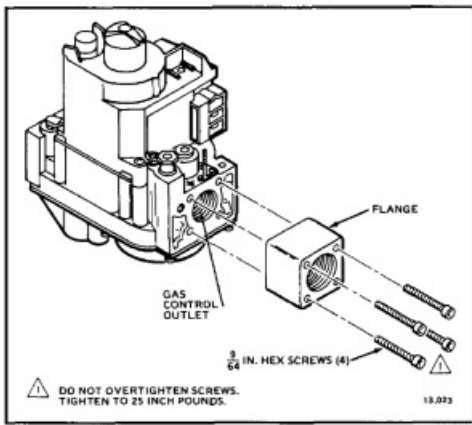

FIG. 2-INSTALL FLANGE TO GAS CONTROL
4. With O-ring facing gas control, align the screw holes on the gas control with the holes in the flange. Insert and tighten the screws provided with the flange. See Fig. 2.